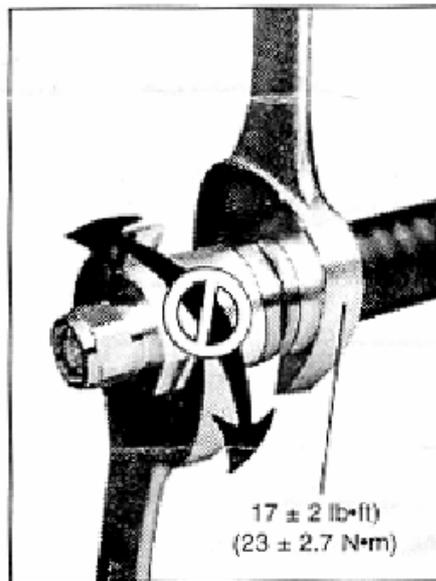

Figure C-19 Fitting connector
- 13) Refit the connector. Never rotate the connector body while installing, as shown in Figure C-19.